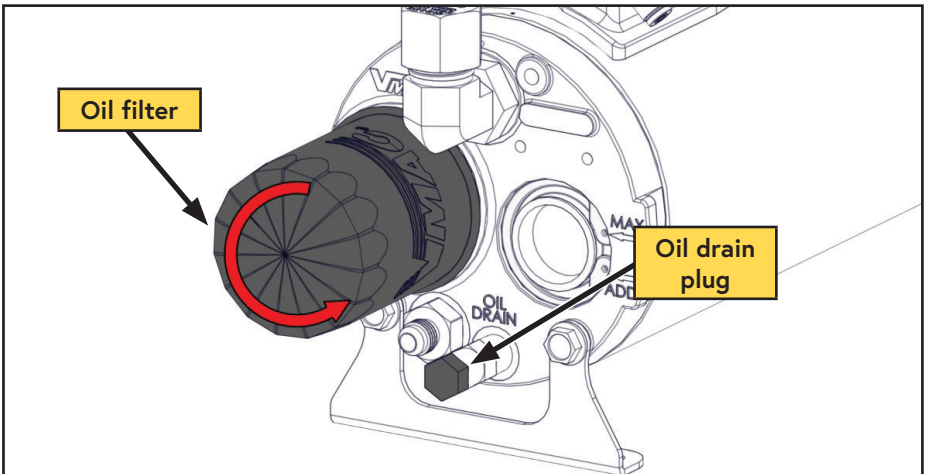

Figure 30 — Compressor oil filter
- Remove the oil drain plug and drain the oil into a container with a capacity of at least 4 L (1 USG) (Figure 30).
- Remove the oil filter (Figure 30).